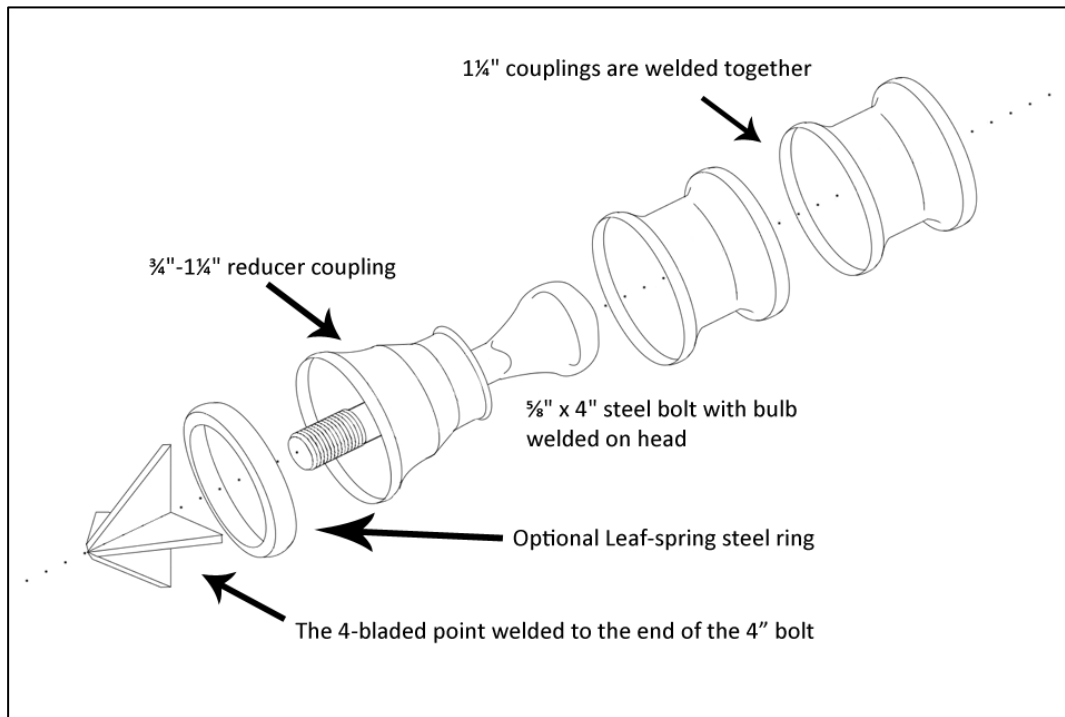

Figure 1 – Exploded view of movable point drill bit
- ix. Weld the 4-bladed point together and attach to bolt placed through the body of the bit as shown in Figure 1. When welding the 4-bladed point on to the valve-bolt, ensure that $\frac{1}{2}$ "- $\frac{3}{4}$ " is left between the bit body and the base of the point.